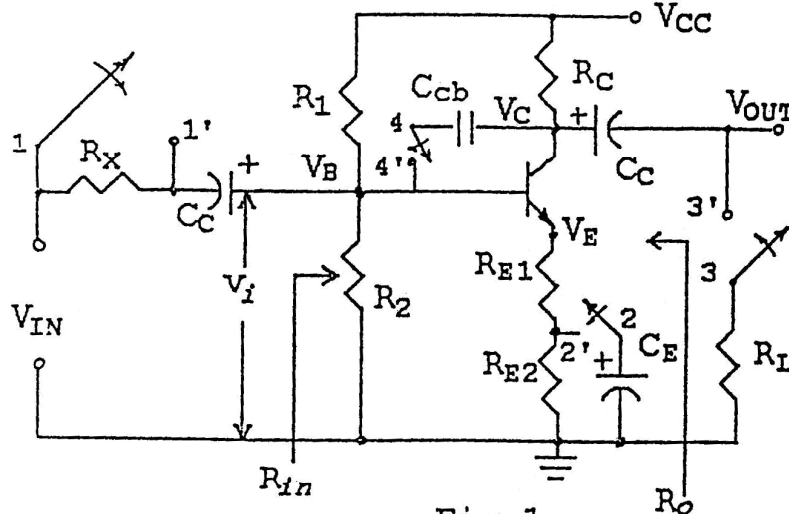

Fig.1
Trace the circuit of the CE-amplifier given in Part-1 of the board (see bottom side). Note down the component values and match them against Fig.1.
- (i) Short the resistor  $R_X$  (by connecting a jumper wire across it; i.e. by joining the points 1 – 1' in Fig.1. Bypass  $R_{E2}$  by joining points 2 – 2' (thereby connecting  $C_E$  across  $R_{E2}$ ). Apply a mid-band frequency (say 4 KHz) sinusoidal voltage of about 100 mV p-p amplitude at  $V_{IN}$  and observe the output waveform on the CRO. Measure the gain. Increase the input voltage in steps and measure